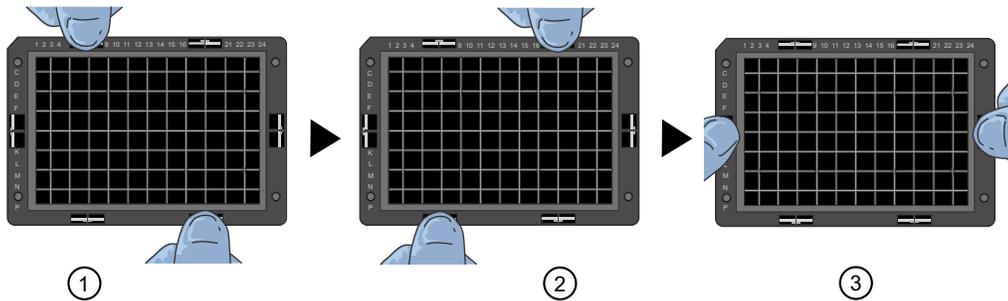

Figure 33 Clamping verification steps.
- ① Chamfer/notched corner
6. Ensure the clamping of the plate stack to check that the array plate is securely fastened to the hybridization tray. Using your thumbs, press the array plate downward following the positions that are specified in Figure 33. No clicking sound indicates proper clamping.